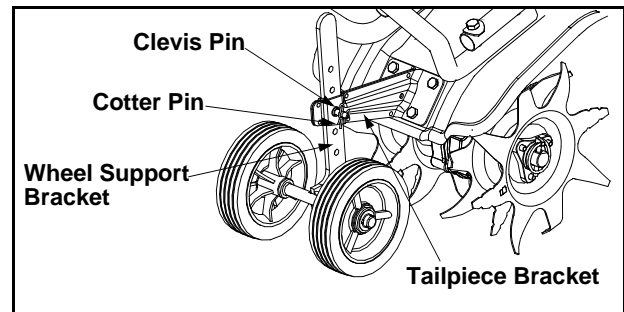

Figure 6
- Remove cotter pin from the clevis pin and slide pin out of tailpiece bracket. See Figure 6.